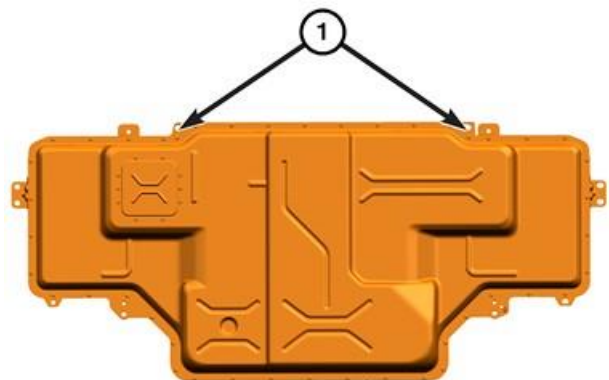

Figure 27 – Support Mounting Holes
41. Install two Eyebolt, 10mm 2035203080 with the nuts to the front support mounting holes (1) (Figure 27).